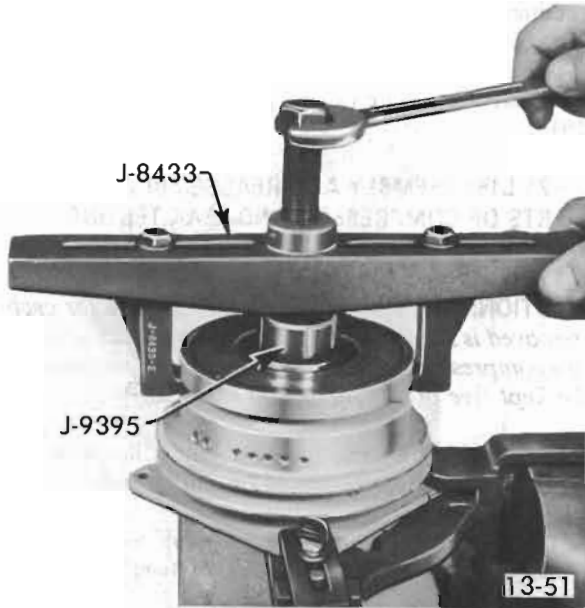

Figure 13-28 Removing Pulley Assembly
3. Place puller pilot (J-9395) on hub of front head and take off pulley assembly (see Figure 13-28), using pulley puller (J-8433).